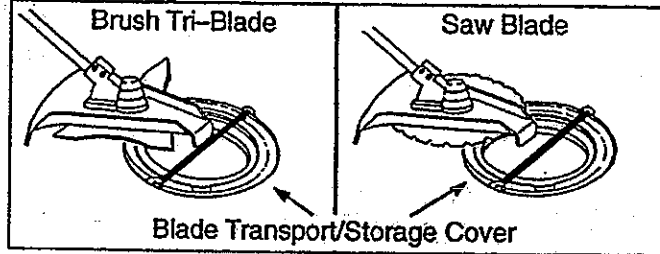

Figure 9
- Clip blade transport/storage cover over the blade. (Refer to figure 9)
BLADE TRANSPORT/STORAGE COVER (See Figure 9)